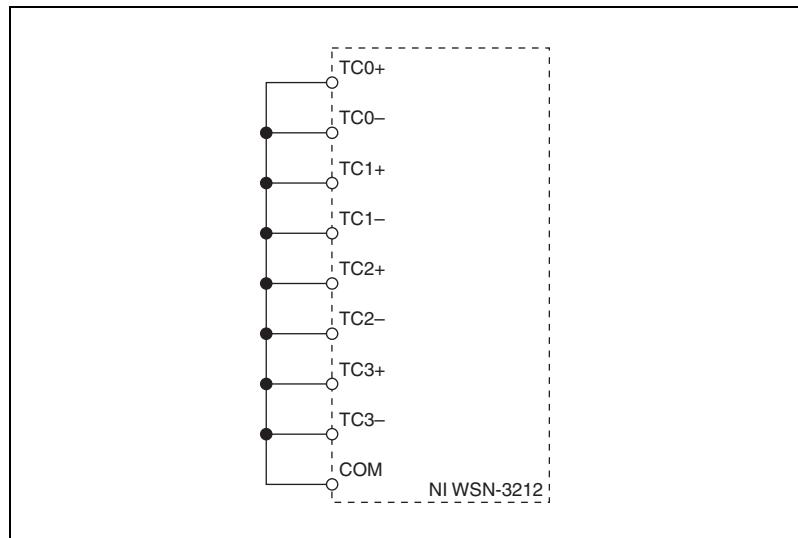

Figure 2. NI WSN-3212 Analog Offset Connections
1. Use copper wire to create a 0Ω short circuit to the NI WSN-3212 as shown in Figure 2.